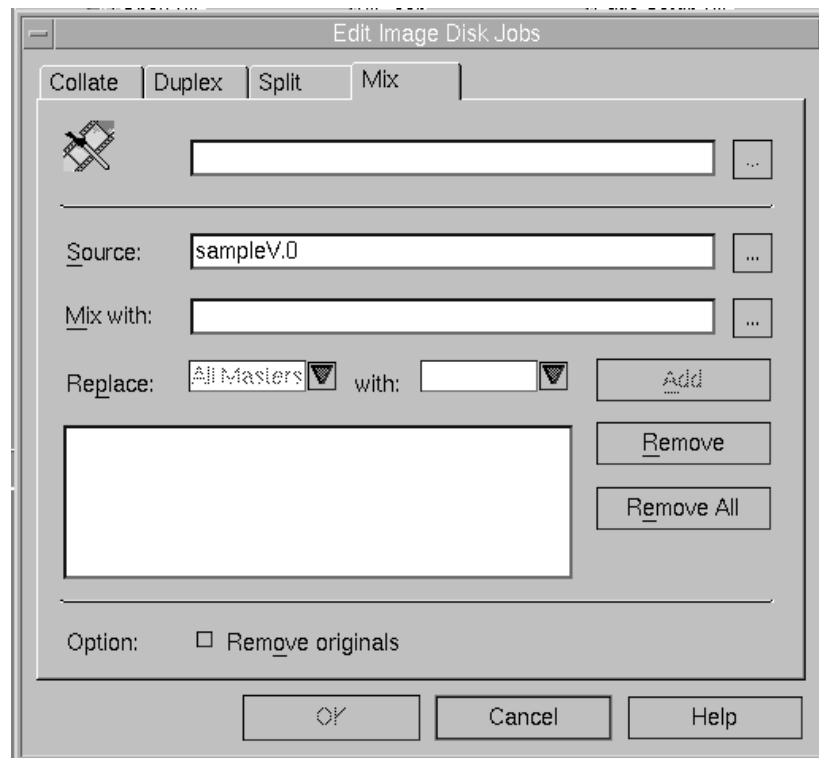

Figure 128. Mix Tab in Edit Image Disk Jobs window
- 3 Click on the **Mix** tab in the **Edit Image Disk Jobs** window, as shown in Figure 128.